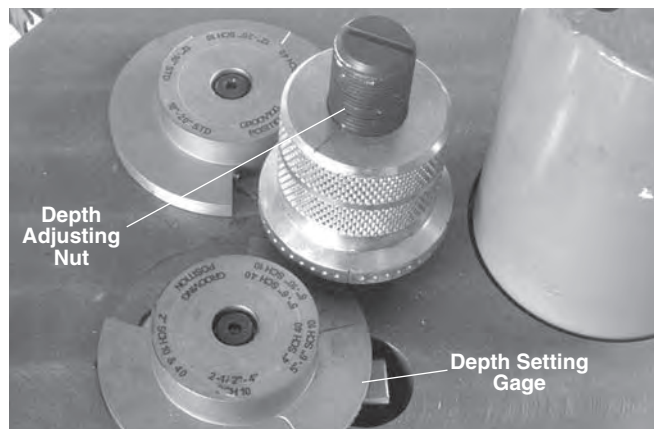

Figure 15
2. Put the correct section of the gauge under the adjusting nut. (Figure 15)